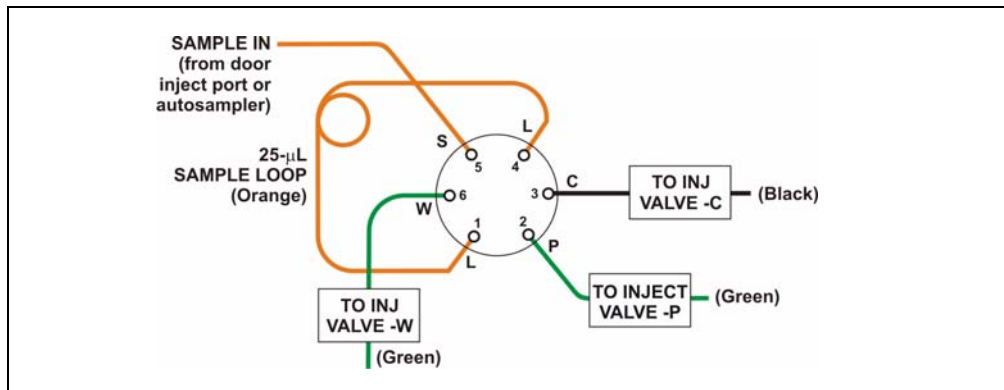

Figure 3-9. Injection Valve Connections
1. Make sure the injection port on the ICS-1000 front door (see Figure 2-1) is connected to the sample port **S (5)** on the injection valve (see Figure 3-9).
1. Disconnect the waste line from port **W (6)** of the injection valve (see Figure 3-9) and attach a shorter line: 25 to 30 cm (10 to 12 inches) of PEEK or Teflon® tubing.